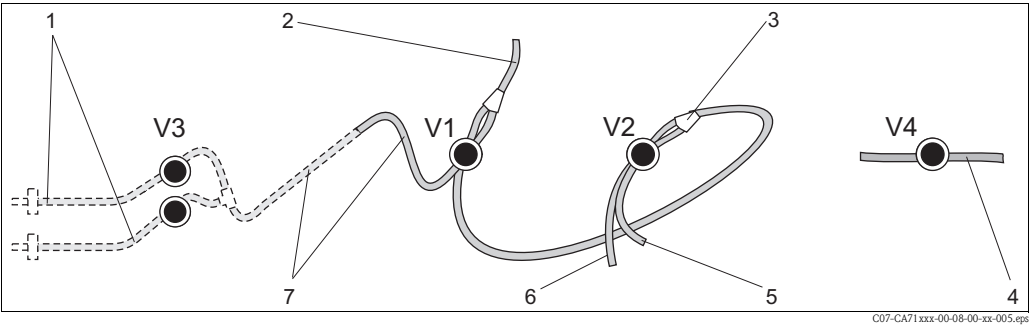

Fig. 12: Valves and valve hoses
5. Insert the valve hoses according to Fig. 12. For the transportation, the hoses were removed from the valves. This prevents the hoses from sticking together or being pressed against the same position for a long period of time.